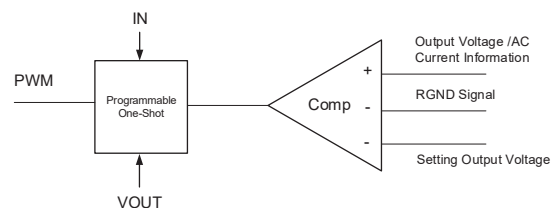

Figure 2. Simplified Control Schematic of AOZ23645QI
The simplified control schematic is shown in Figure 2. The high-side switch on-time is determined solely by a one-shot whose pulse width is inversely proportional to input voltage (IN). The one-shot is triggered when the internal setting output voltage is higher than the combined information of output voltage and the AC current information of inductor and load line signal, which is processed and obtained through the sensed low-side MOSFET current once it turns on. The added AC current information can help the stability of constant-on time control even with pure ceramic output capacitors, which have very low ESR. The AC current information has no DC offset, which does not cause offset with output load change, which is fundamentally different from other V^2 constant-on time control schemes.